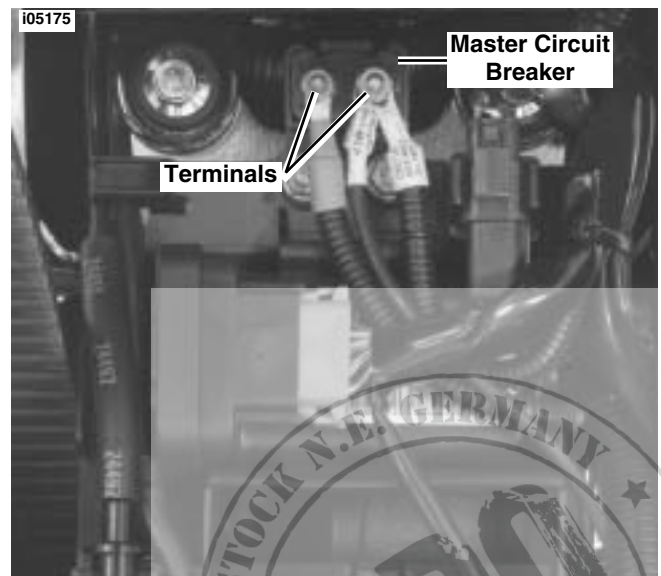

Figure 2. Master Circuit Breaker (Viewed with Rear Wheel Removed)
4. See Figure 2 and Service Parts Illustration. Obtain the nylon cap nuts (6) from kit. Thread the cap nuts onto the terminal threads to completely cover the existing steel nuts. Tighten securely.